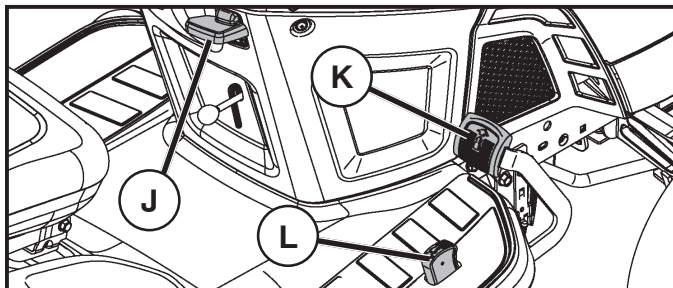

Fig. 28
TO MOVE FORWARD AND BACKWARD (See Fig. 28)
- Slowly depress forward (K) or reverse (L) drive pedal to begin movement. Ground speed increases the further down the pedal is depressed.
TO USE CRUISE CONTROL (J) (See Fig. 28)